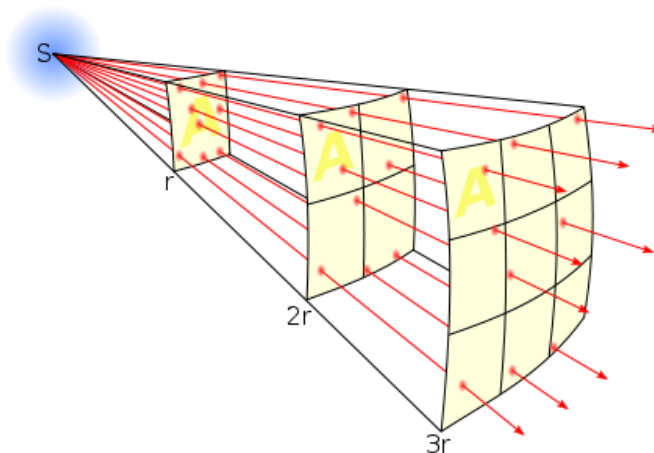

Figure 18. The inverse square law³²: light intensity reduces inversely by the square of the distance from the light source.
- iii. Finally, the relationship between the intensity of the light projected onto a surface is inversely proportional to the square of the distance from the light source, a relationship known as the **inverse square law** (illustrated in Figure 18). Simply put, this law describes the phenomenon observed when, for example, doubling the distance between a light source and a target, one reduces the light intensity by 4 (since $2^2=4$)